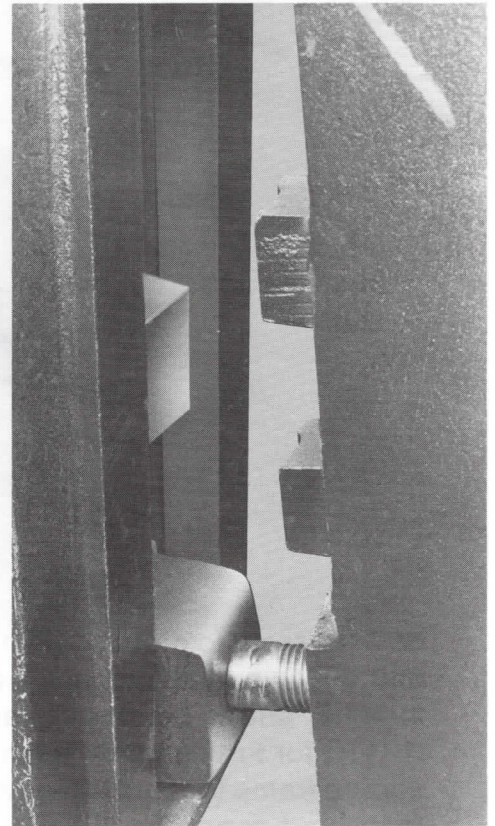

Fig. 6
8. Remove nuts from weight attaching bolts and lower weight into position over bolts making sure that screw adjusting lug is positioned between "ears" on weight, Fig. 6. Replace nuts and lockwashers and hammer tighten nuts.